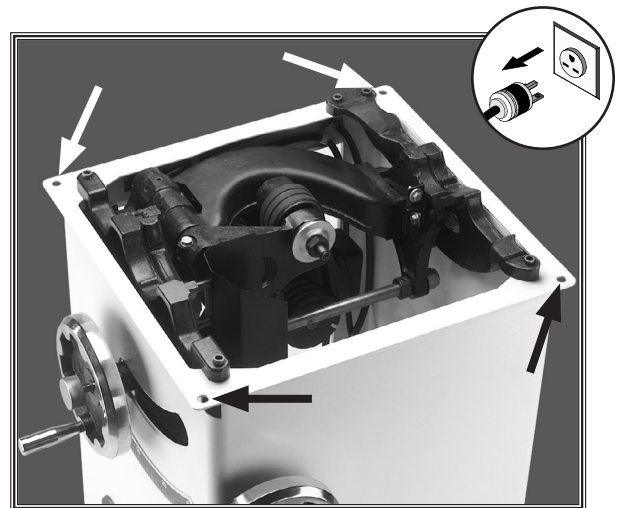

Figure 67. Table mounting locations.
8. To adjust the table, loosen the four bolts at the table mounting locations shown in **Figure 67**.